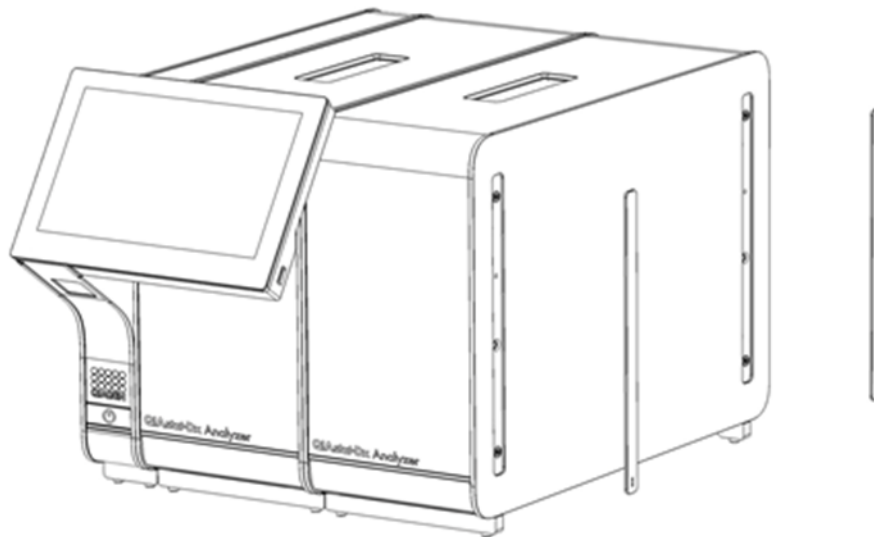

Figure 17. Reattaching protective covers on the additional Analytical Module.
5. Reattach the protective covers on the side of the additional Analytical Module (Figure 17).